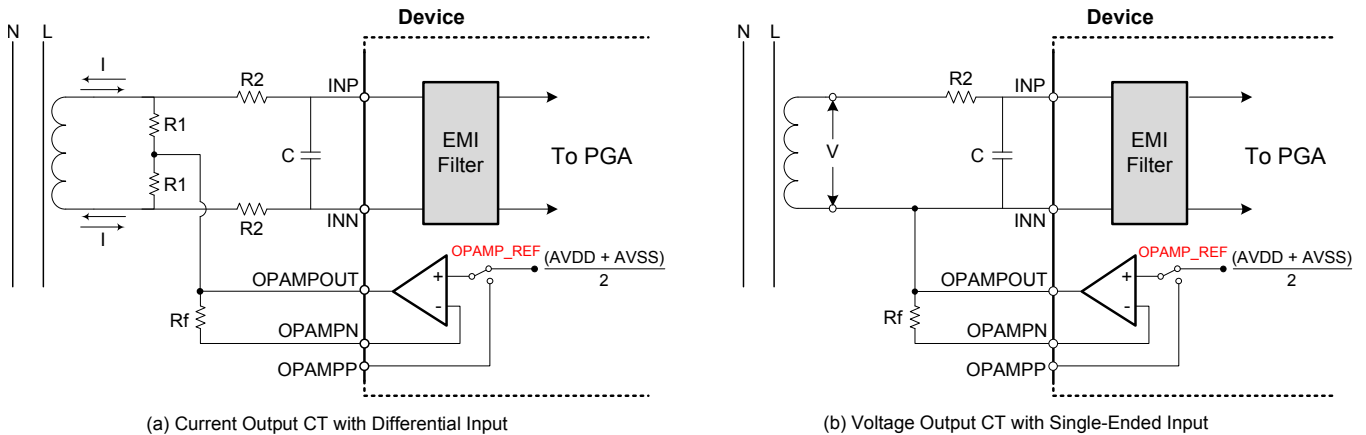

Figure 44. Simplified Current Sensing Connections
Figure 44 shows a simplified diagram of typical configurations used for current sensing with a Rogowski coil, current transformer (CT), or an air coil that outputs a current or voltage. In the case of the current output transformers, the burden resistors (R1) are used for current-to-voltage conversion. The output of the burden resistors is connected to the ADS131E0x INP and INN inputs through an antialiasing RC filter for current sensing. In the case of the voltage output transformers (such as certain types of Rogowski coils), the output terminals of the transformers are directly connected to the ADS131E0x INP and INN inputs through an antialiasing RC filter for current sensing. The common-mode bias voltage $(AVDD + AVSS) / 2$, can be obtained from the ADS131E0x by either configuring the internal op amp in a unity-gain configuration using the R_F resistor and setting bit 3 of the CONFIG3 register, or it can be generated externally with a simple resistor divider network between the positive and negative supplies.